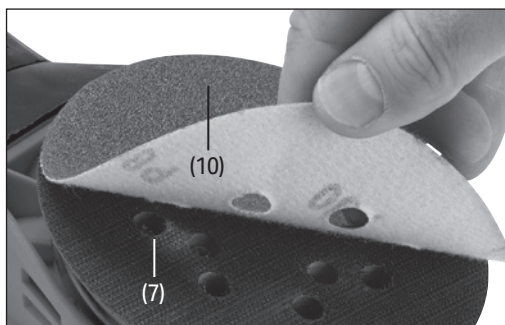

Fig. 1
6.1 Fitting/Replacing Sanding Sheet (Fig.1)
- Press a hook and loop sanding sheet (10) onto the base pad (7).